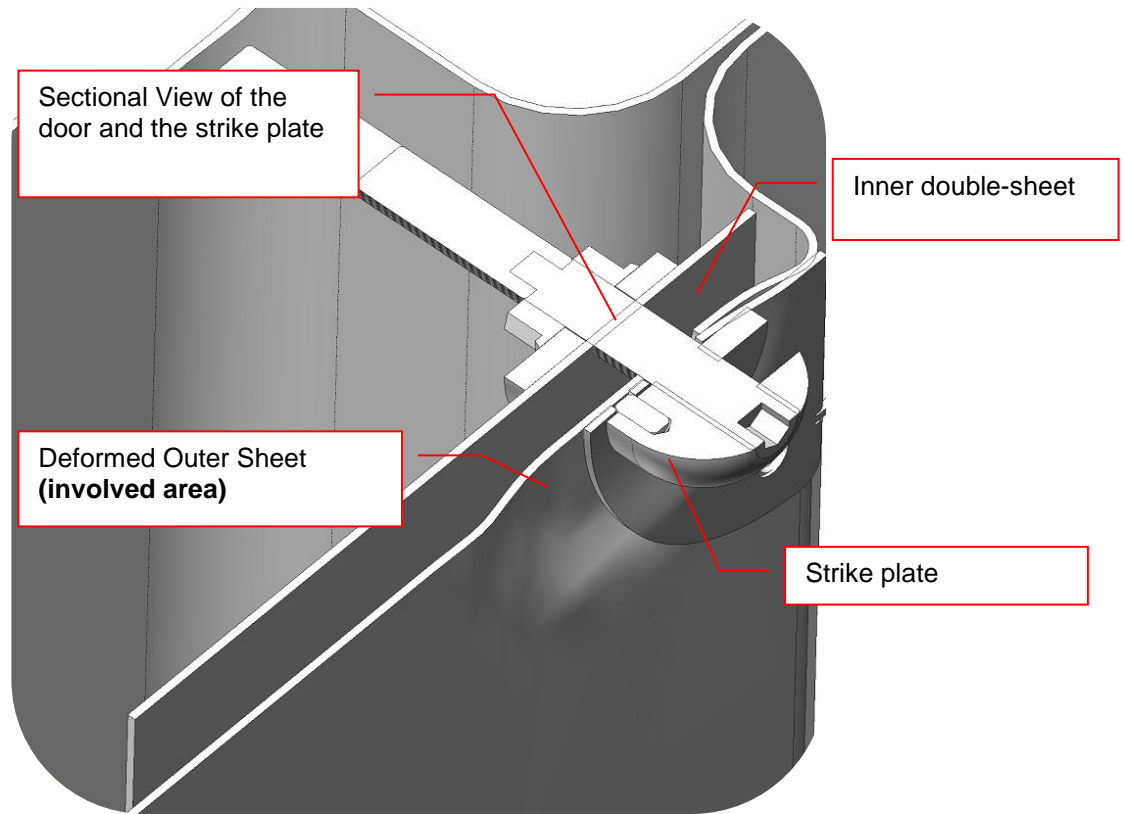
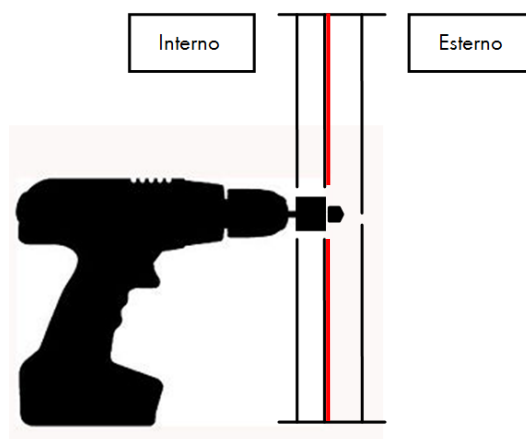

Fig.6
Fig.13
- In particular, if in correspondence from the fixing area of the strike plate there is a second metal sheet or box-like profile inside the door and no drilling is performed, it may happen that by tightening the long nut which blocks the strike, the outer sheet is irreversibly deformed, bending inwards (Fig.6). This deformation would invalidate the assembly and operation of the lock. Any attempt to register the lock will be in vain.
In the case where there is a third / fourth sheet metal between the external sheet and the internal sheet (for example ribs, reinforcements, boxed pieces) it is necessary to drill the same (fig.13) in order to avoid withdrawals of the external sheet and in order to guarantee the correct support of the counterplate on the external plate from the inside (see Fig.6)